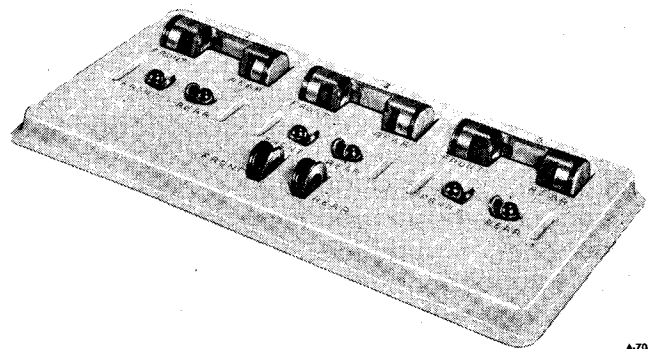

Figure 99—Parts Tray
Use parts tray J-9402 (figure 99) to retain compressor parts during disassembly.
7. Remove and examine piston balls, and if satisfactory for reuse, place balls in No. 1 compartment of parts tray J-9402 (figure 99).